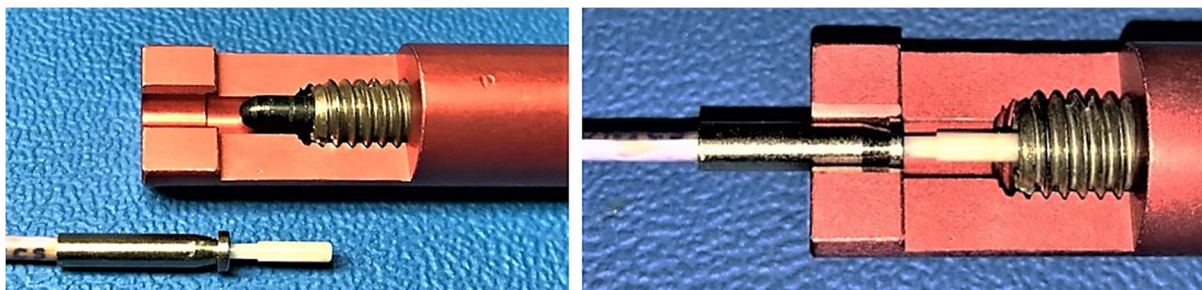

Figure 6. Pin Lens Assembly cure
3. Insert the pin assembly into the 2828502-2 pin cure fixture (red), see Figure 6. The spring-loaded plunger will assure that physical contact between the fiber and the lens is maintained throughout the curing process. This is necessary to assure good RL performance at temperature extremes.